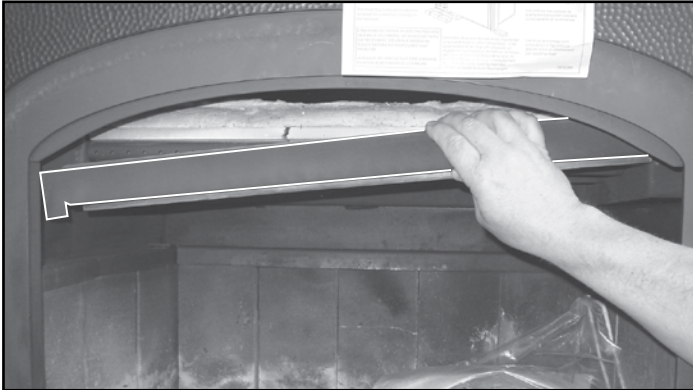

Figure 4.5 Removing Baffle Protection Channel
2. Remove the baffle protection channel by turning it down and pulling it out of the firebox. See Figure 4.5